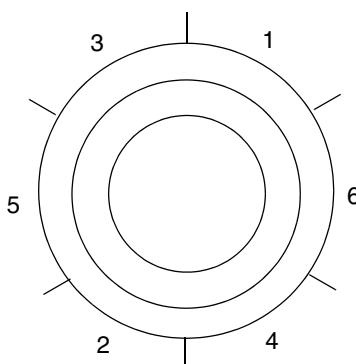

Figure 7. Welding Procedure
2. 2. Weld the spud mounting ring in sections as indicated in Figure 7.
3. 3. Tack weld using the welding sequence shown in Figure 7. Cool each section with water until the temperature is below 700°F (370°C) before proceeding to the next section.
2. Tack weld using the welding sequence shown in Figure 7. Cool each section with water until the temperature is below 700°F (370°C) before proceeding to the next section.